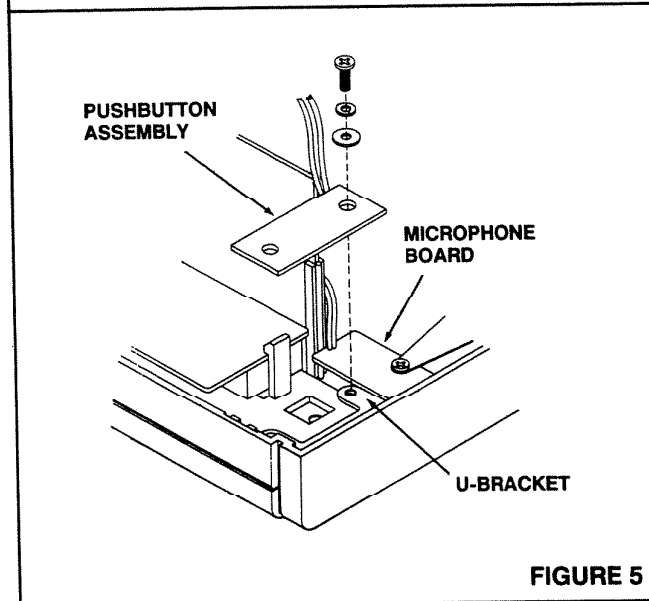

FIGURE 5
5. Refer to Figure 5. Remove one screw from U-bracket located below microphone board and attach pushbutton assembly with the screw that was removed.